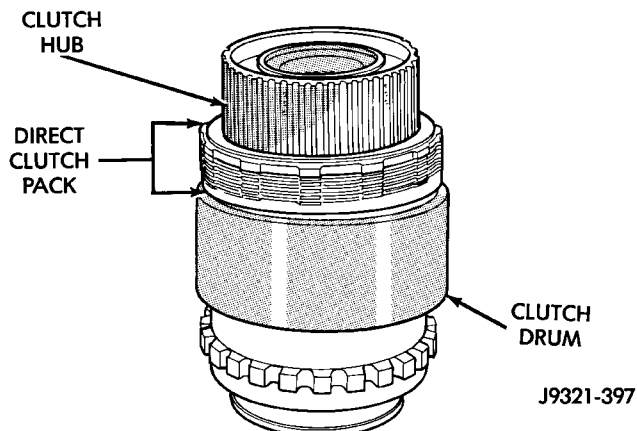

Fig. 229 Direct Clutch Pack And Clutch Hub Installation
(19) Install clutch hub and clutch pack on direct clutch spring (Fig. 229). **Be sure hub is started on sun gear splines before proceeding.**